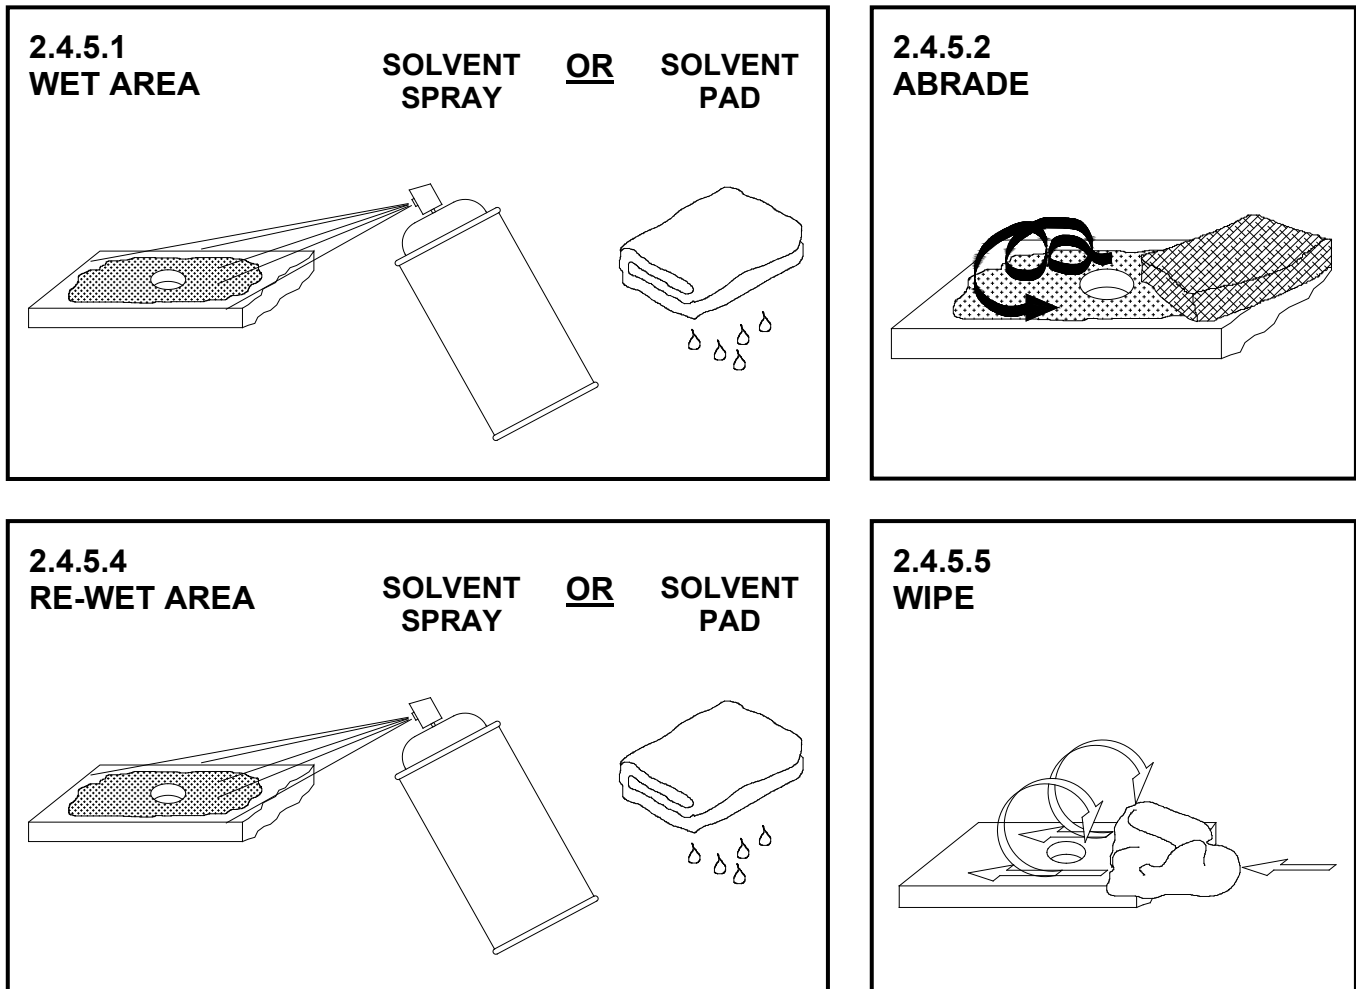

FIGURE 2. WET ABRASION PROCEDURE
- 2.4.5 **Wet Abrading** – Alternate surface abrasion method to 2.4.2 and 2.4.3 utilizes a solvent spray or solvent wipe process as shown in Figure 2.